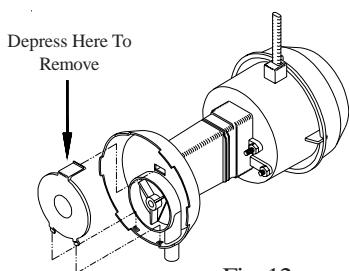

Fig. 12
- Clean pump.** Cleaning the pump is necessary once a year at start-up. For your safety, turn unit off and unplug motor and pump. Remove the pump from the mount slot. Remove the bottom cover of the pump as shown in Fig. 12. Clean the pump and turn the impeller to ensure free